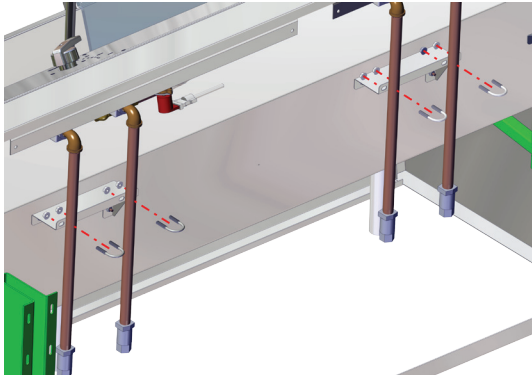

Fig. 6: Remove U-bolt water pipe securements
5. Use the wrench to remove the 8 nuts securing the 4 U-bolts to the brackets and water pipes (Fig. 6). Remove the U-bolts from the water pipes.